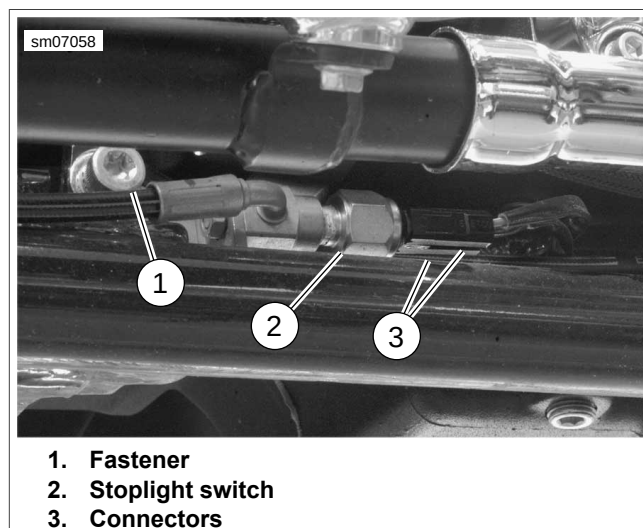

Figure C-17. Rear Stoplight Switch
2. See Figure C-17. Remove electrical connectors (3) from stoplight switch (2).
3. Remove fastener (1) securing stoplight switch to frame.
6. See Figure C-17. Install fastener (1) with washer securing stoplight switch to frame. Tighten to 30-35 ft-lbs (40.6-47.4 Nm).
7. Install electrical connectors (3) to stoplight switch (2).
8. Secure brake line to master cylinder reservoir using **new** sealing washers. Tighten banjo bolt (12) to 17-22 ft-lbs (23.1-29.9 Nm).